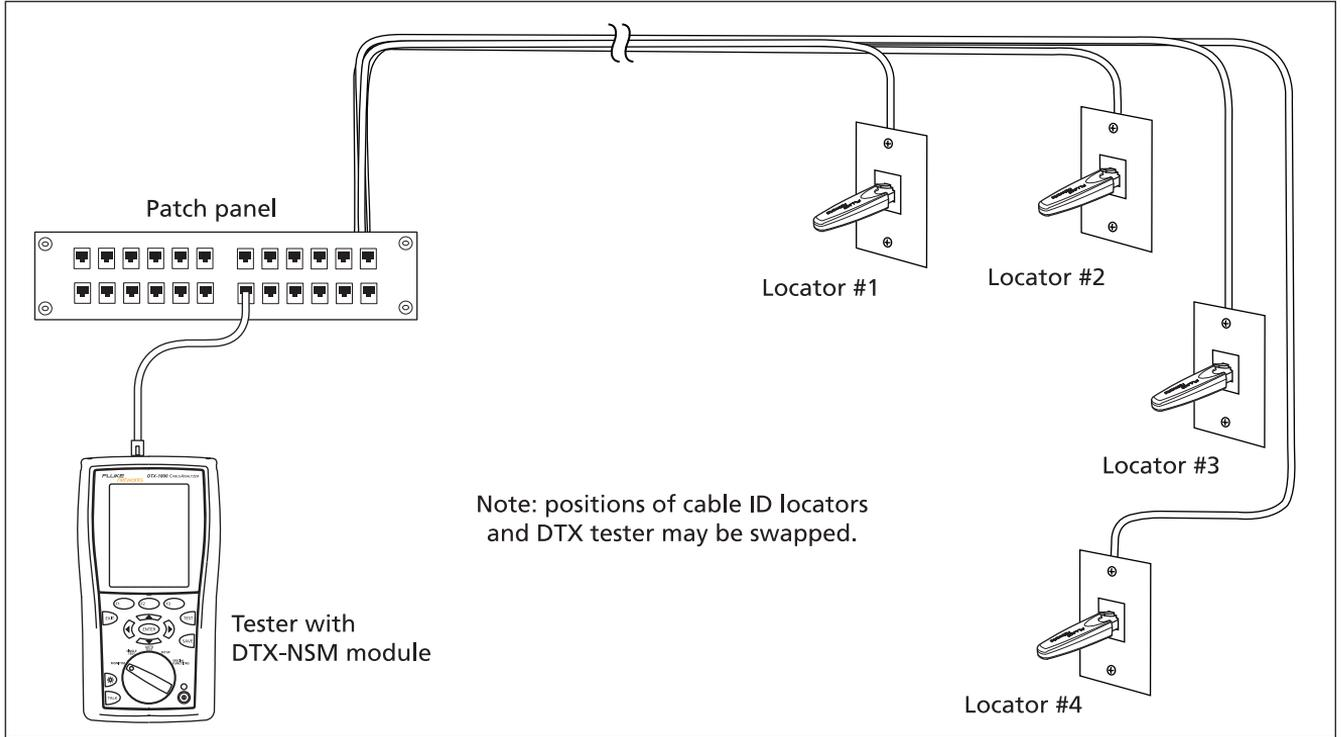

Figure 9-8. Identifying Links with Optional LinkRunner Cable ID Locators
- 1 Connect the tester and ID locator(s) as shown in Figure 9-8.